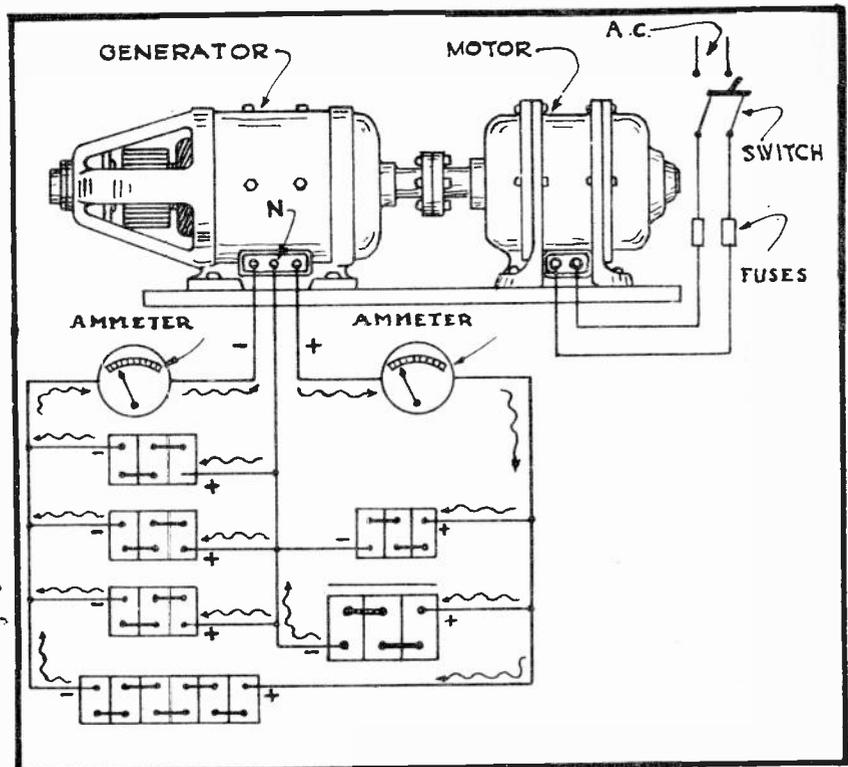

FIG. 11
IN FIG. 11 YOU WILL SEE HOW SIX DIFFERENT BATTERIES ARE ALL CONNECTED TO THIS M.G. SET AT ONE TIME. NOTICE THAT ONE WIRE, WHICH COMES FROM THE GENERATOR, IS POSITIVE (+), ANOTHER IS NEGATIVE (-) AND THE CENTER ONE IS NEUTRAL (N). INSTEAD OF THESE CONDUCTORS BEING FLEXIBLE WIRE, YOU WILL GENERALLY FIND THEM TO BE RIGID COPPER RODS ABOUT 3/4" IN DIAMETER AND WE CALL THEM BUSS BARS.